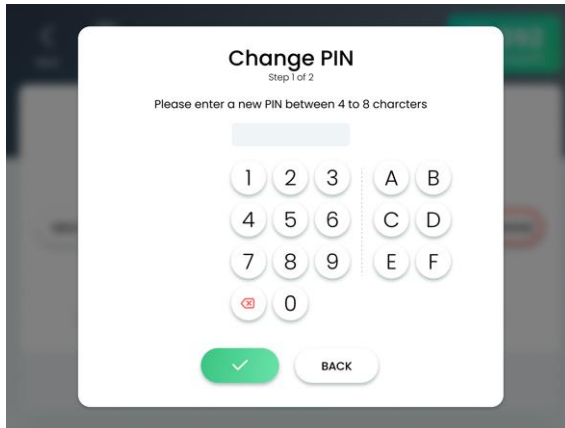

Figure 6-10. Change PIN (Step 1 of 2) Screen
3. Press the **Change PIN** button; the Change PIN (Step 1 of 2) screen appears, as shown in Figure 6-10.